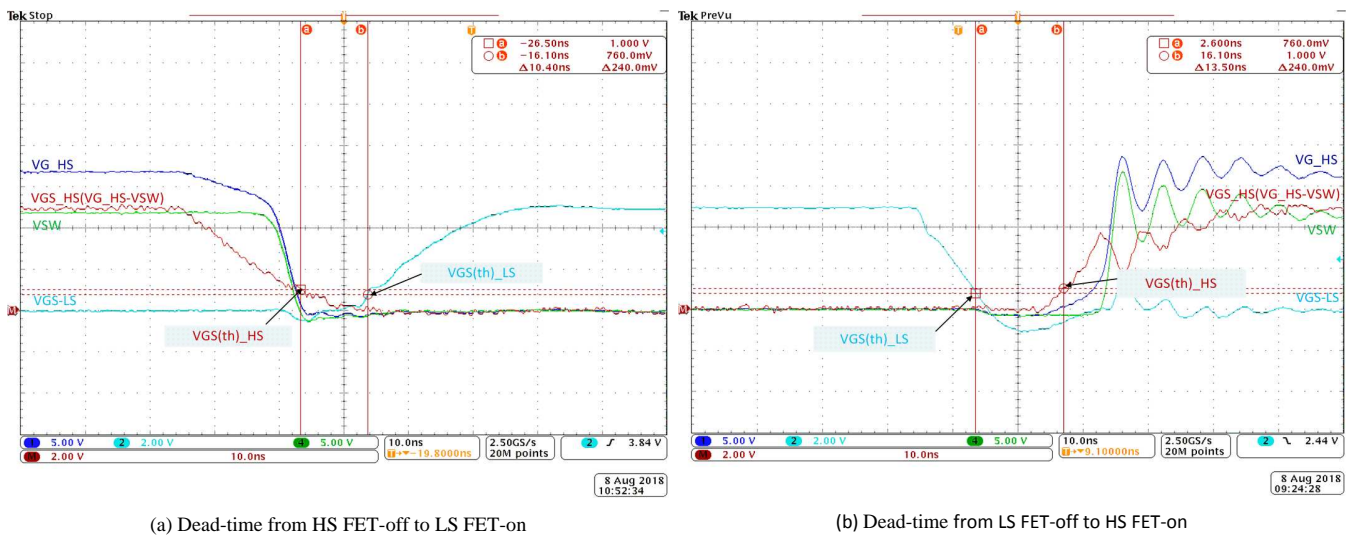

Figure 11. Dead-time Measurement for $V_{GS(th)}$
- Cursors locate at $V_{GS(th)}$ of both HS FET and LS FET, Dead-time from HS FET-off to LS FET-on is 10.4 ns and from LS FET-off to HS FET-on is 13.5 ns (See Figure 11)